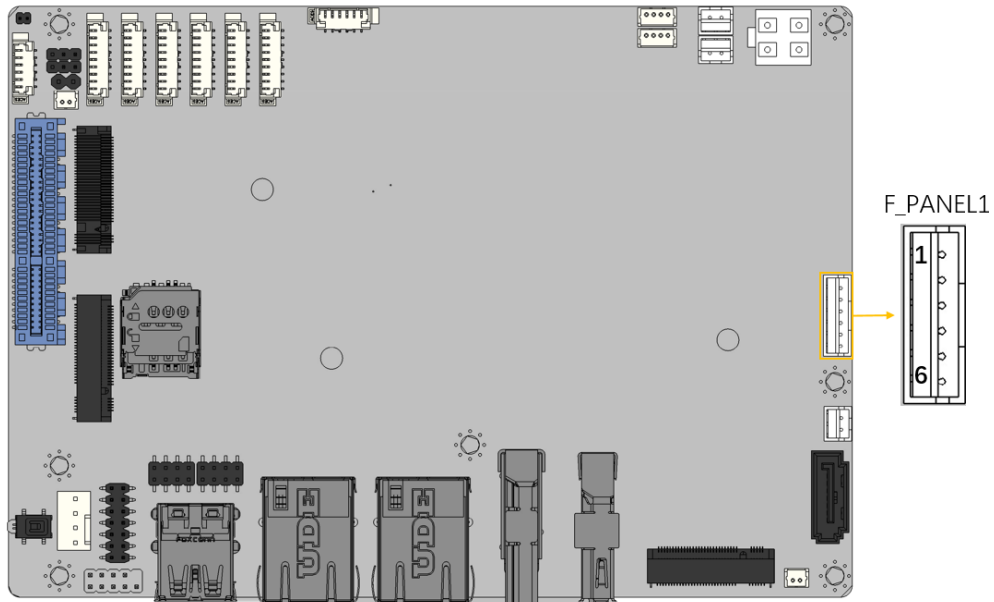

Figure 3-13: Power LED & HDD LED Connector Location
- CN Location:** See **Figure 3-13**